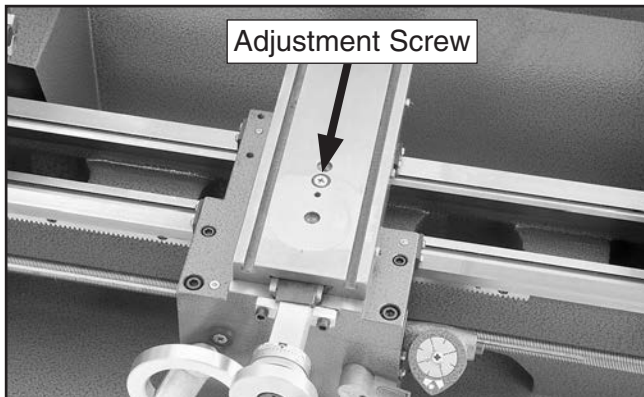

Figure 84. Cross slide backlash adjustment screw.
2. Remove the compound slide from the cross slide, then loosen or tighten the adjustment screw shown in **Figure 84** until you are satisfied with the amount of backlash.